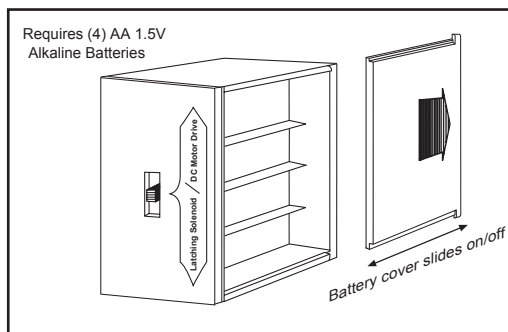

Fig. 9 Installing Batteries
1. Install (4) AA alkaline batteries (Included) in the battery pack as shown in Fig. 9.